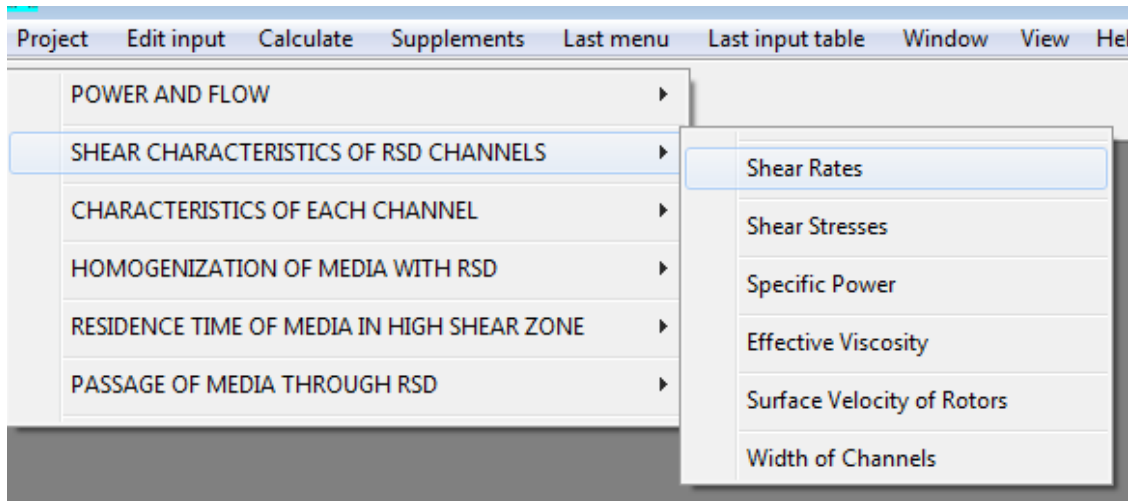

Figure 21.
2.2. The next step – calculation of limits of shear rates created by the RSD. To perform the calculation for the rotational speed 3000 rpm, select **Calculate>SHEAR CHARACTERISTICS OF RSD CHANNELS > Shear Rates** (Figure 21).